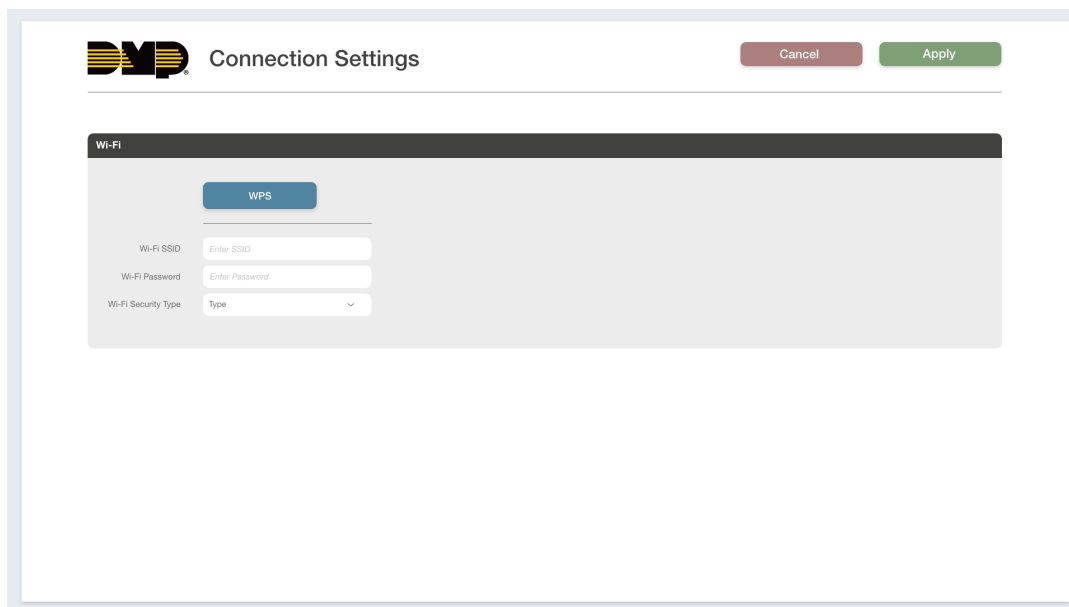

Figure 1: Connection Settings
3. The Connection Settings page will open, as shown in Figure 1. In the **Wi-Fi** options, enter the customer's Wi-Fi network SSID, Password, and Security Type.